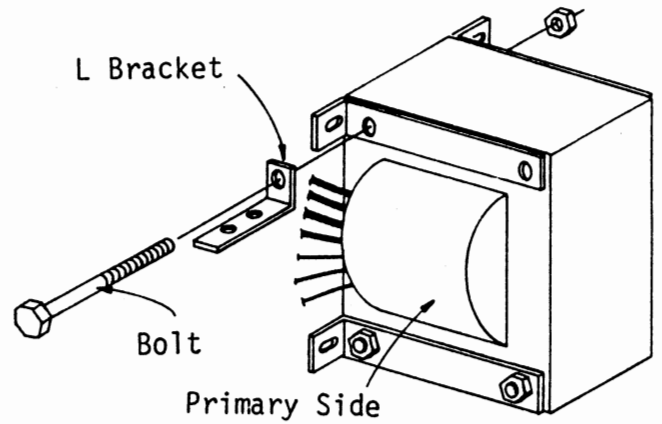

Figure 5-55. "L" Bracket Mounting
5-64. TRANSFORMER (Figures 5-55 through 5-59)
- ✓ 1. Orient the transformer with the secondary side (four black wires) facing you. Remove the two top bolts and nuts and use them to mount two "L" brackets (Bag 2) as shown in Figure 5-55.